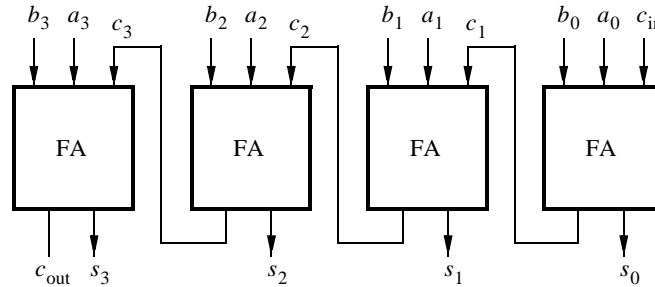

Figure 1: A four-bit ripple carry adder.
Consider the four-bit ripple-carry adder circuit used in lab 2; its diagram is reproduced in Figure 1.
**PRELAB TODO:** Using this construct, implement the four-bit ripple carry adder from Figure 1, and simulate it to verify its correctness. **Note:** hand in a print-out of your simulation along with the code itself. Also note that you are just implementing an adder in this section for use in subsequent parts of the lab – no need for flip flops here!